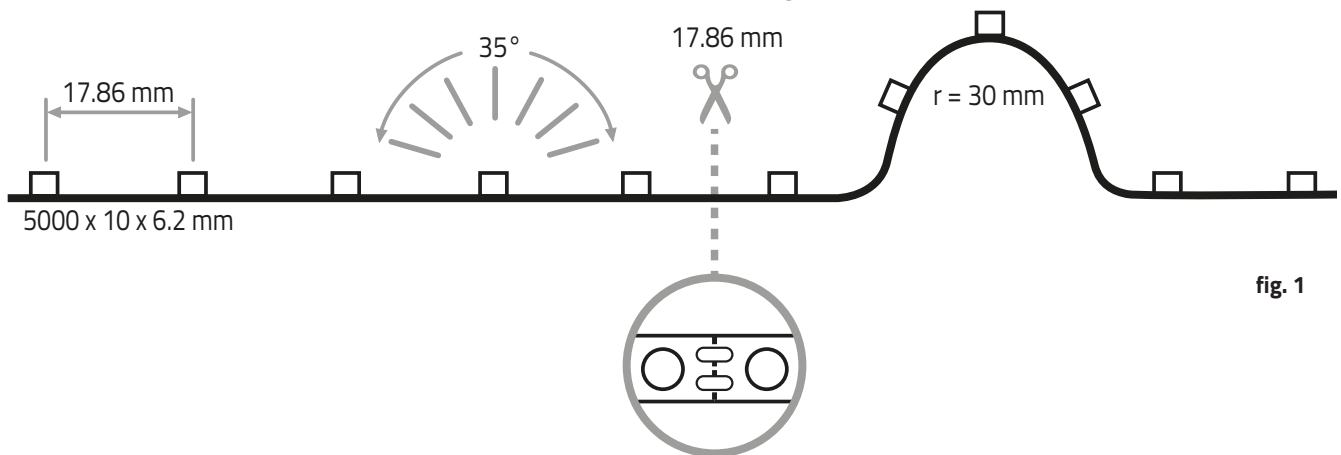

fig. 1
2. Shorten **VARDIFLEX** LED strip if necessary (fig. 1).
LED strip can be separated in each case after **each LED (17.86 mm)** (fig. 1).